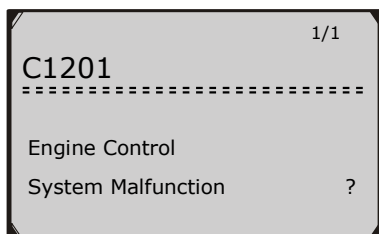

Figure 4.3
- 3) Review selected data on screen. (Figure 4.3 )